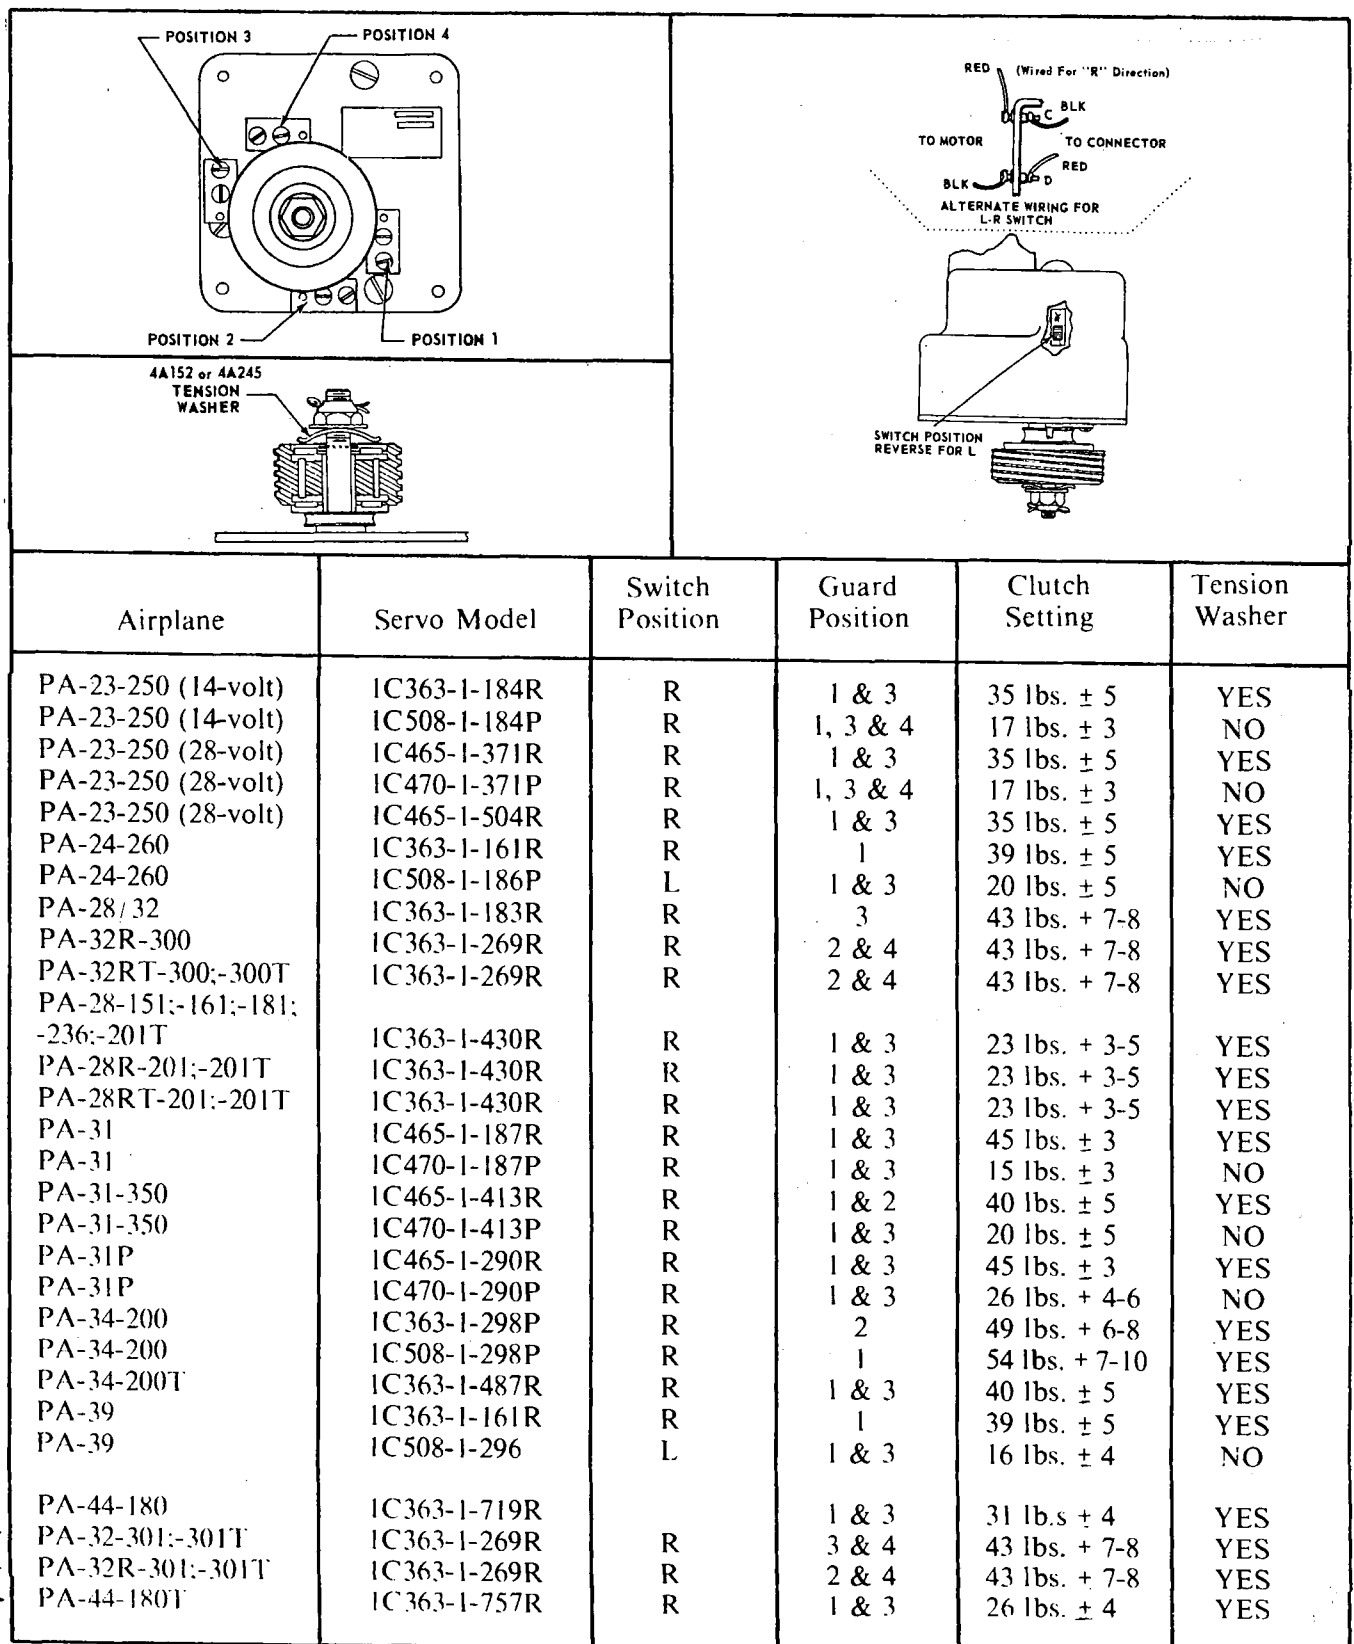

Figure 3-1. Roll and Pitch Servo Guide
Figure 3-1 is used to properly set up and check a servo prior to installation in the airplane. The use of this illustration will be discussed in Paragraph 3-2.
3-2. PRE-INSTALLATION CHECKS AND ADJUSTMENTS OF ROLL AND PITCH SERVO ASSEMBLIES. Prior to installation of a roll or pitch servo assembly, certain checks and adjustments should be conducted according to Figure 3-1 and the following instructions.
Figure 3-1 describes the set-up procedures for the 1C363-1, 1C465-1, 1C470-1 and 1C508-1 Servos.
a. Switch Position: Check the position of either the switch plate or the motor wiring to pin C and pin D of the servo connector with the appropriate table in Figure 3-1. To set the switch in the correct position, remove the two screws through the face of the switch plate. Move the slide switch to the left or right, as necessary, and reinstall the plate with the corresponding letter visible. If the servo does not feature a switch, the wiring from the motor to pin C and pin D of the servo motor connector must be checked. For clockwise rotation of the shaft, place the Blk wire on pin C and the Red wire on pin D. For counterclockwise rotation, place the Red wire on pin C and the Blk wire on pin D.